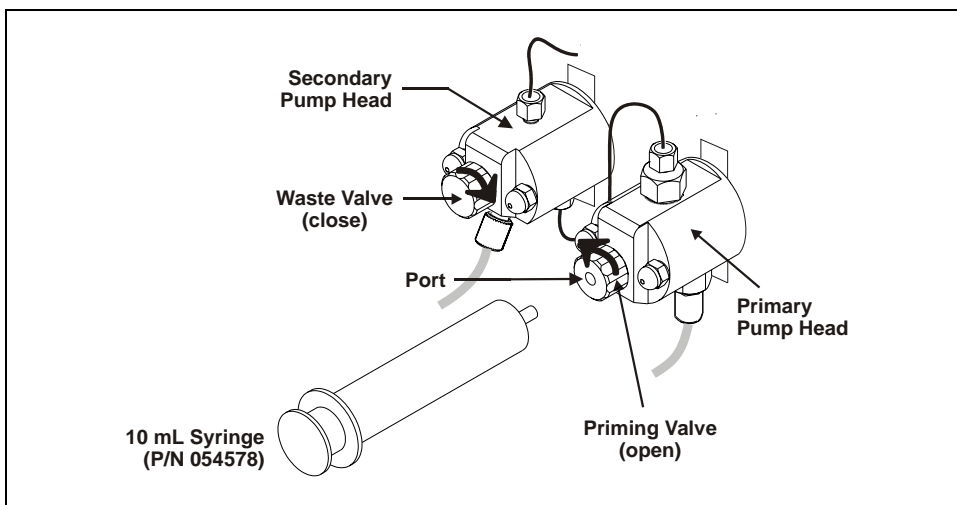

Figure 27. Priming the Eluent Lines
2. Connect a 10 mL syringe (P/N 054578) to the port in the priming valve on the primary pump head (see Figure 27).